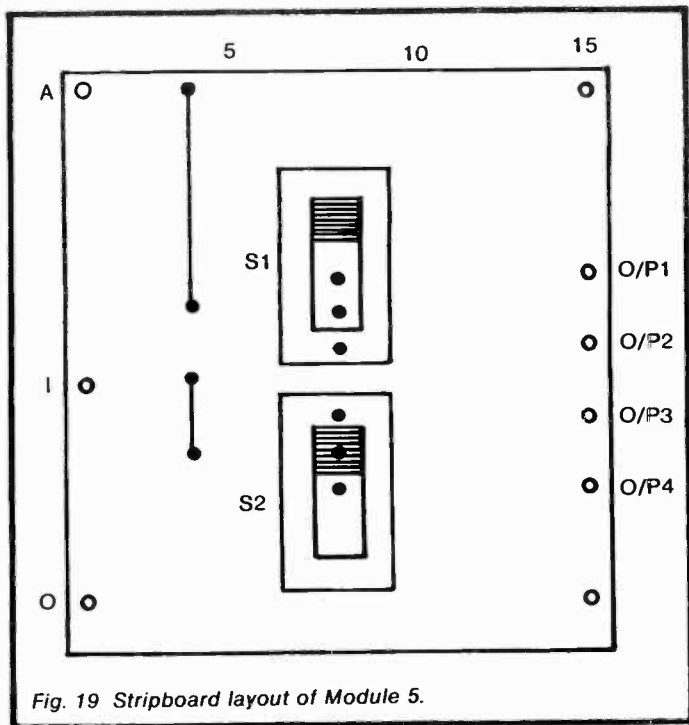

Fig. 19 Stripboard layout of Module 5.
*How it works:* the suggested layout provides two single-pole double throw switches. Panels with other types of switches can be built up in a similar way. The suggested layout has one switch connected to a power rail, the +9V rail if orientated as shown in Figure 19. The board can be turned round so that this switch is connected to the 0V rail instead.
*Stripboard layout:* see Figure 19.